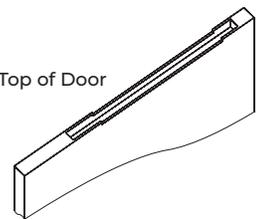

Figure 2
- Using template provided with these instructions, prepare frame header and door for closer. (Figure 2)